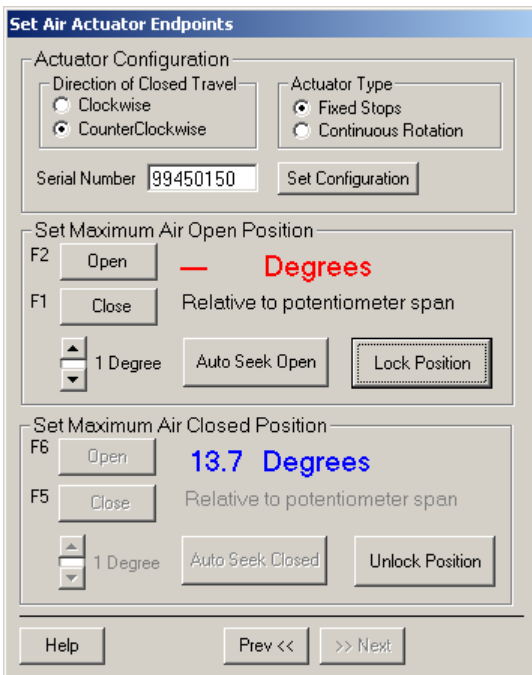

Fig. 11. Auto seek open to actuator mechanical open fixed stop.
- Auto seek open to actuator mechanical open fixed stop. See Fig. 11.